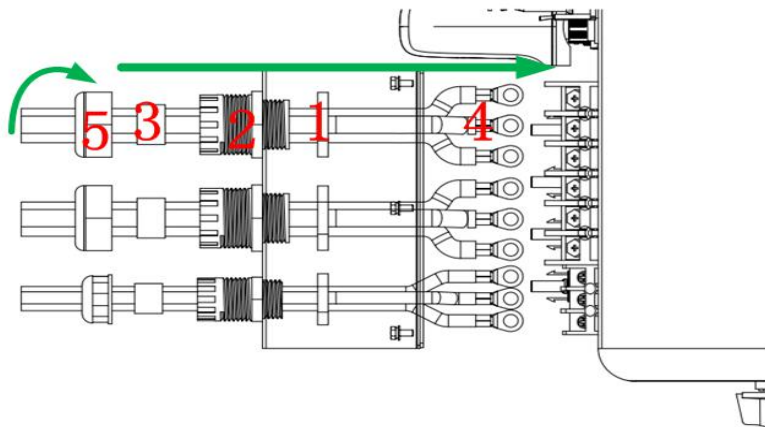

Fig. 6.3.1.1
5mm cable sheath of L (red/ brown), N (black/ blue), PE (yellow-green) cables, and pass the exposed cable core through the waterproof cover and the waterproof terminal. As shown in Fig. 6.3.1:
- ③ Fix the waterproof terminal on the waterproof cover, and as shown in Fig.6.3.1.1, pass 2 through the waterproof cover and fix it with 1, and then insert the rubber ring 3 into 2.